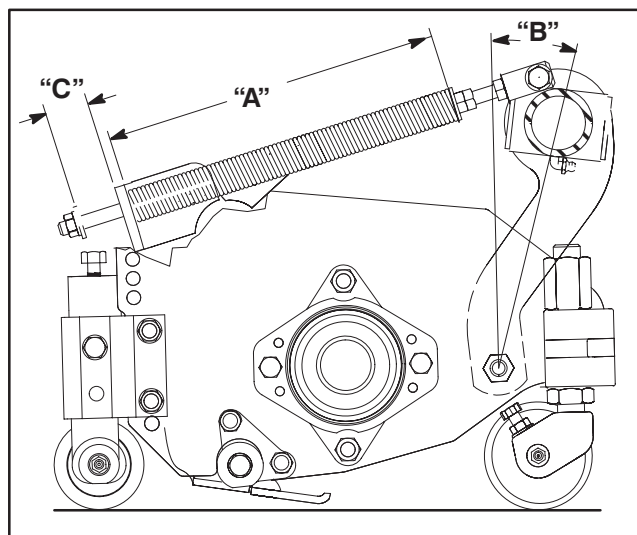

Figure 6
The Turf Compensation Spring (Fig. 6), connecting carrier frame to cutting unit, controls the amount of fore-aft rotation available, as well as the amount of ground clearance in transport and turn around.
1. Tighten lock nut on rear of spring rod until the gap (C) between rear of spring bracket and front of washer is 1 – 1/2" (38 mm) (Fig. 6).
2. Tighten hex nuts on front end of spring rod until the compressed length (A) of spring is 8" (203 mm) (Fig. 6).
- NOTE:** When cutting rough or undulating turf, increase compressed length (A) of spring to 8 – 1/2" (216 mm)
and gap (C) between rear of spring bracket and front of washer to 2" (51 mm) To attain this adjustment, spring rod must be unthreaded from rod end approximately 1/2" (Fig. 6).